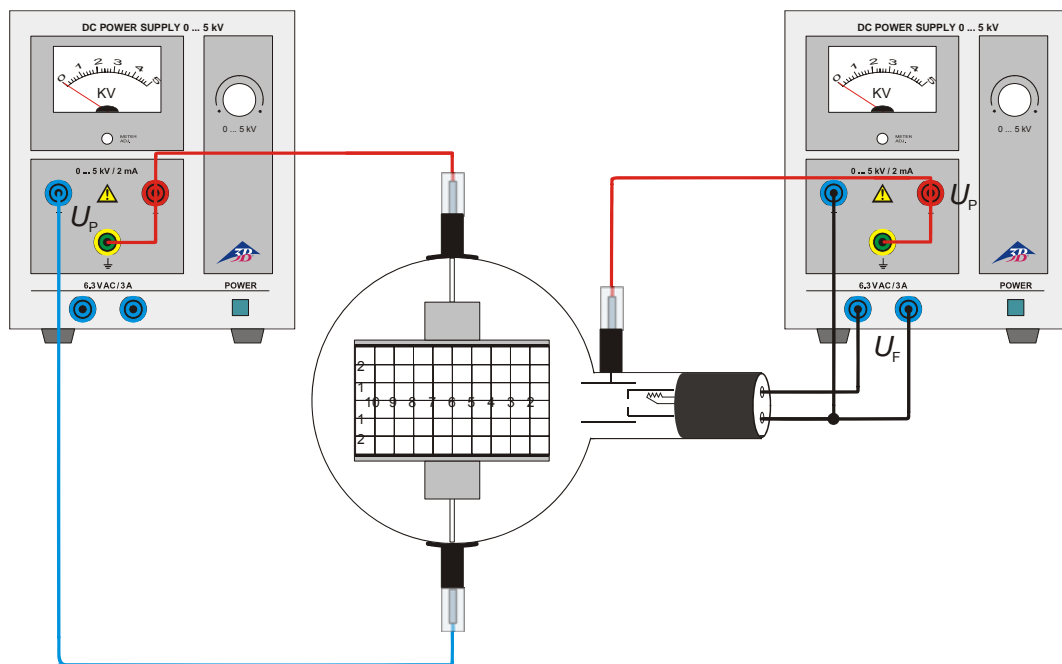

Fig.3 Electric deflection
- Set up the experiment as in Fig 3.